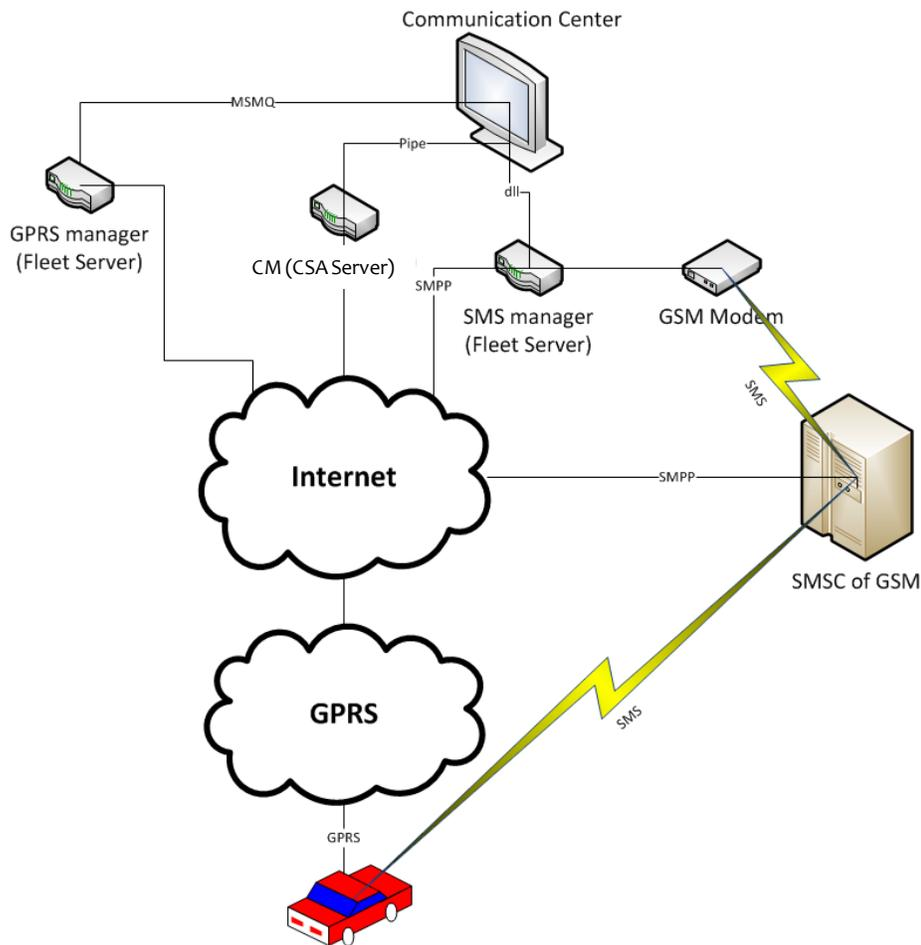

Figure 2: Communication Center Architecture
- ◆ **SMS Gateway:** The SMS Gateway application maintains and manages the SMS communication between the Communication Center and the Cellocator unit. It supports the internet SMPP protocol or GSM modem allowing Internet or cellular communication links to the unit, as shown in Figure 2.